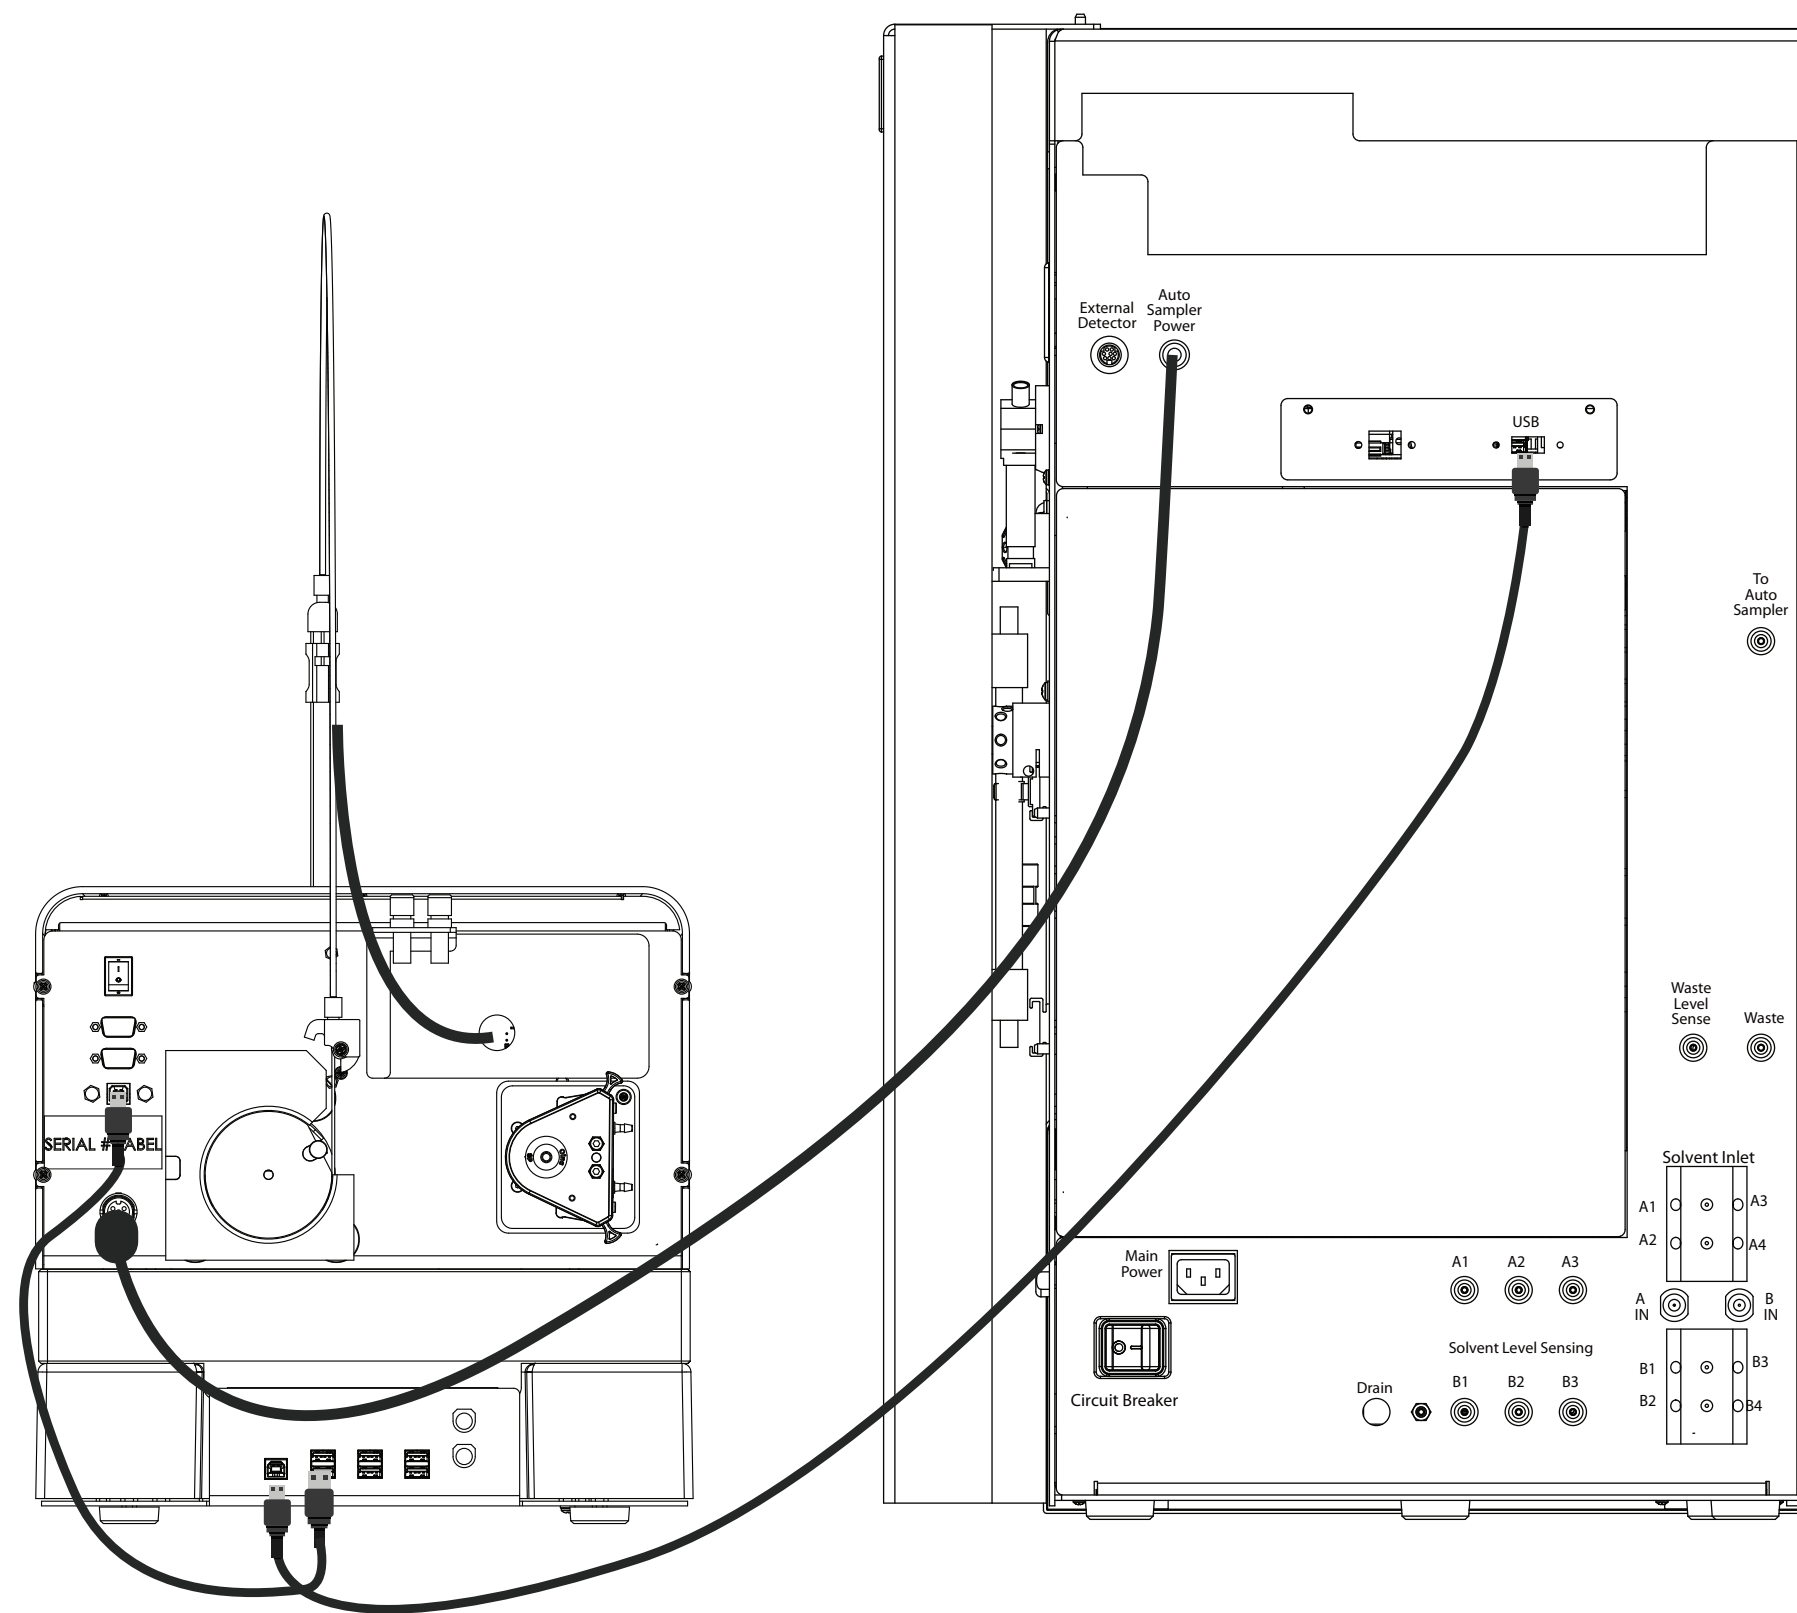

Figure A-2 USB wiring diagram of the Autosampler connected to the ACCQPrep
- A wiring diagram of the USB connections from the AutoSampler to the ACCQPrep (*Figure A-2*)